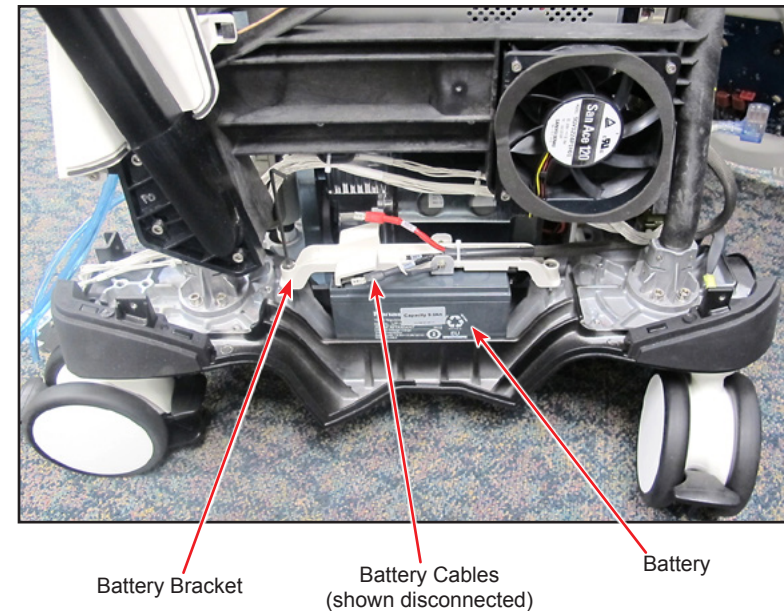

Figure 3-45 Battery Removal
- 38.6 Disconnect cables from battery (see Figure 3-45).